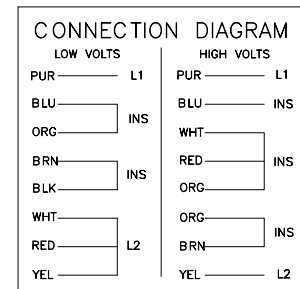

Figure 2 — Typical Wiring Diagram
1. Connect power in accordance with the NEC and all local codes. Refer to Figure 2 for the wiring diagrams.